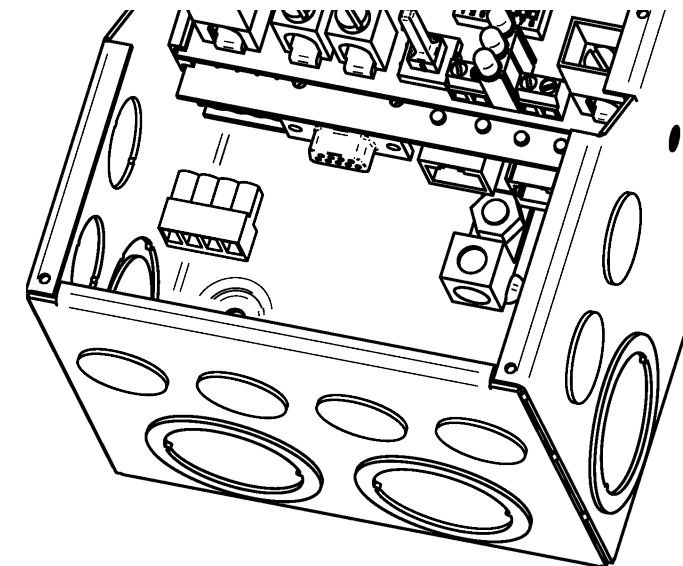

Figure 3-6. Removing the RS-485 socket connector
The four (4) position EIA-485 connector on the TriStar MPPT 150V must be removed to access the terminal screws. Remove the socket connector by firmly grasping the connector body and pulling away from the circuit board as shown in Figure 3-6.